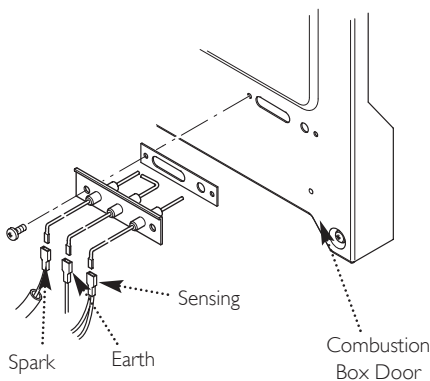

Fig. 51
15.7 Spark and Sensing Electrodes (Fig. 51)